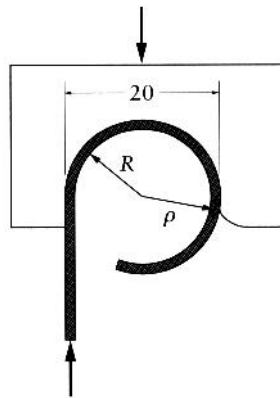

Figure 2 Bead Forming with a Die.
4. A straight bead is being formed on a 2 mm thick aluminum sheet in a 20-mm diameter die as shown in Figure 2. Let $Y=120$ MPa and $E=70$ GPa.